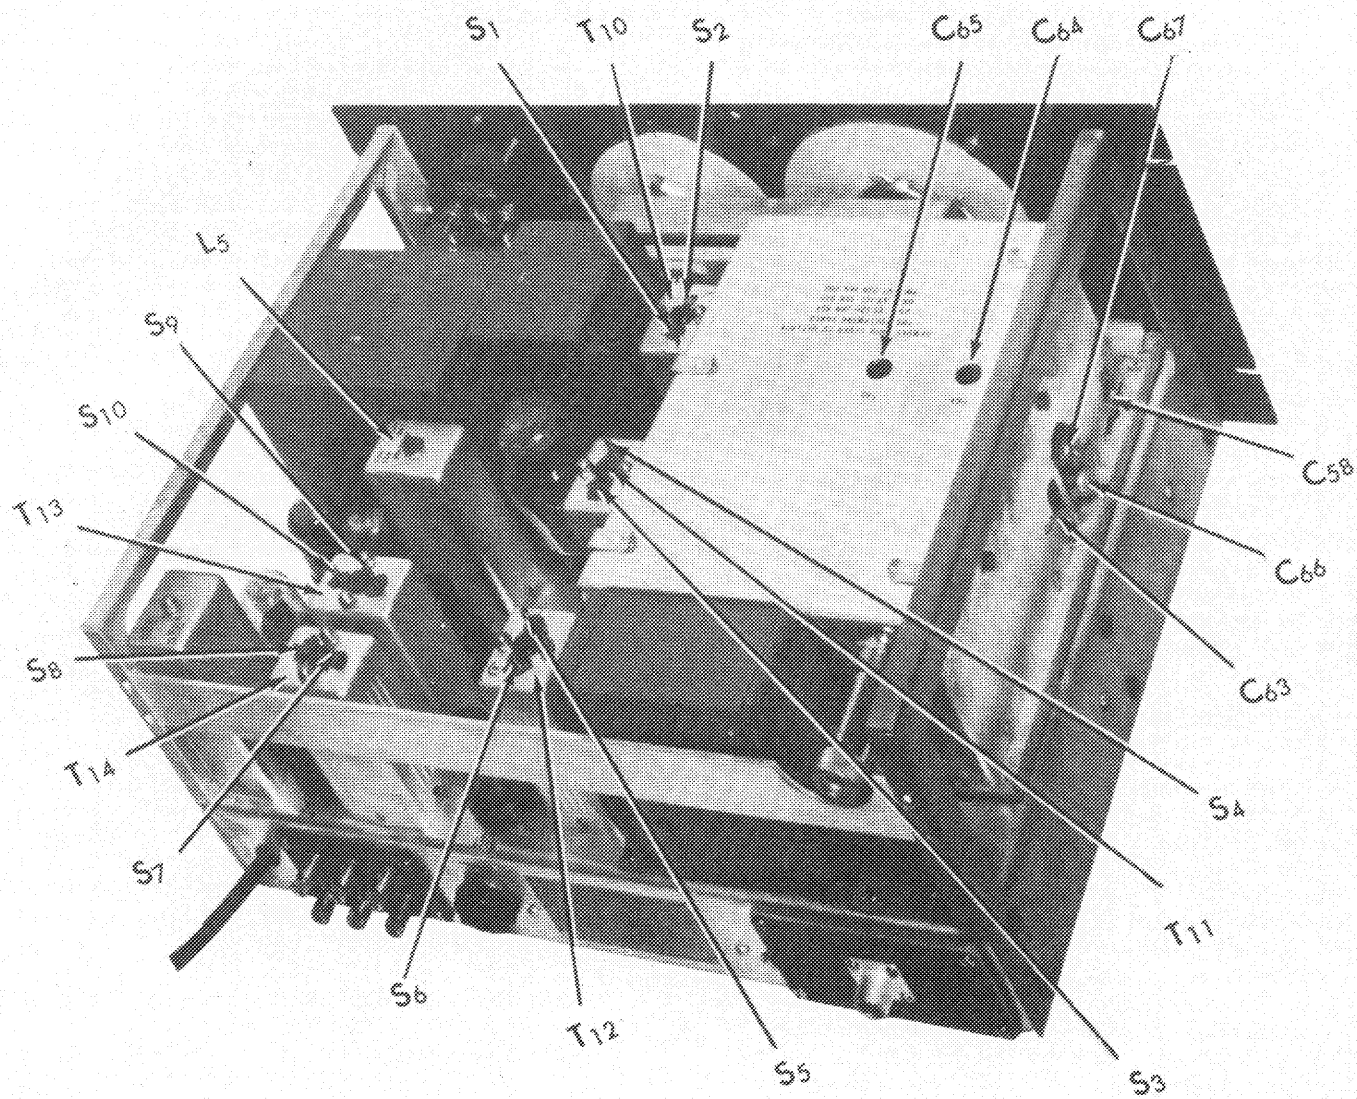

Figure 8. Radio Receiver CHL-46298, Top View Showing Alignment Points
(3) Set the signal generator frequency at 5.25 MC. and with the 400 cycle modulation turned on, align transformer T10, T11, T12 and T13 by adjusting the slug adjustment screws S1, S2, S3, S4, S5, S6, S9 and S10. Refer to figure 8 for location of these adjustment screws. A bakelite screw driver with a metal or insulated tip is necessary for accurate alignment.
(4) Repeat the alignment procedure at least once to insure an accurate alignment.
(5) The discriminator transformer T14, is aligned as follows:
d. R-F ALIGNMENT. - Refer to figure 8 for location of alignment controls.
(1) Connect the signal generator to plug CN-49121 and wire the dummy antenna resistor (50 ohm noninductive resistor) in series with the generator terminals. Connect the output meter to the speaker terminals.
(2) Set the controls on the receiver as for i-f amplifier alignment. Refer to paragraph D-3. b. (2).
(3) Turn on 400 cycle tone modulation on the signal generator.
(4) Align the three bands as follows: